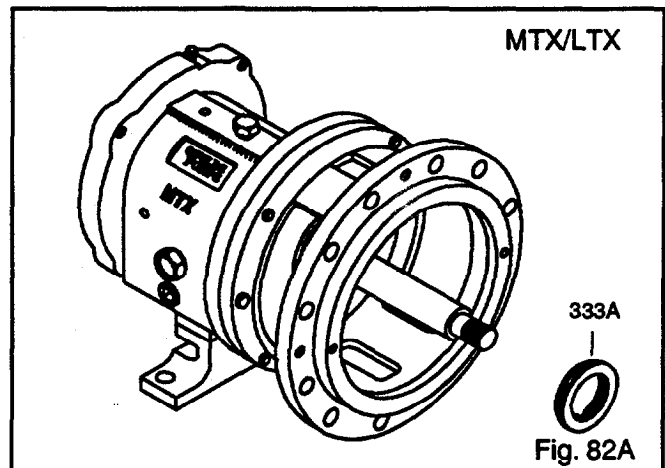

Fig. 82A
- Install inboard labyrinth oil seal (333A) into adapter (108) / bearing frame (228). It is an O-Ring fit. Position the labyrinth seal drain slots at the bottom (6 o'clock) position. (Fig. 82A, 82B)